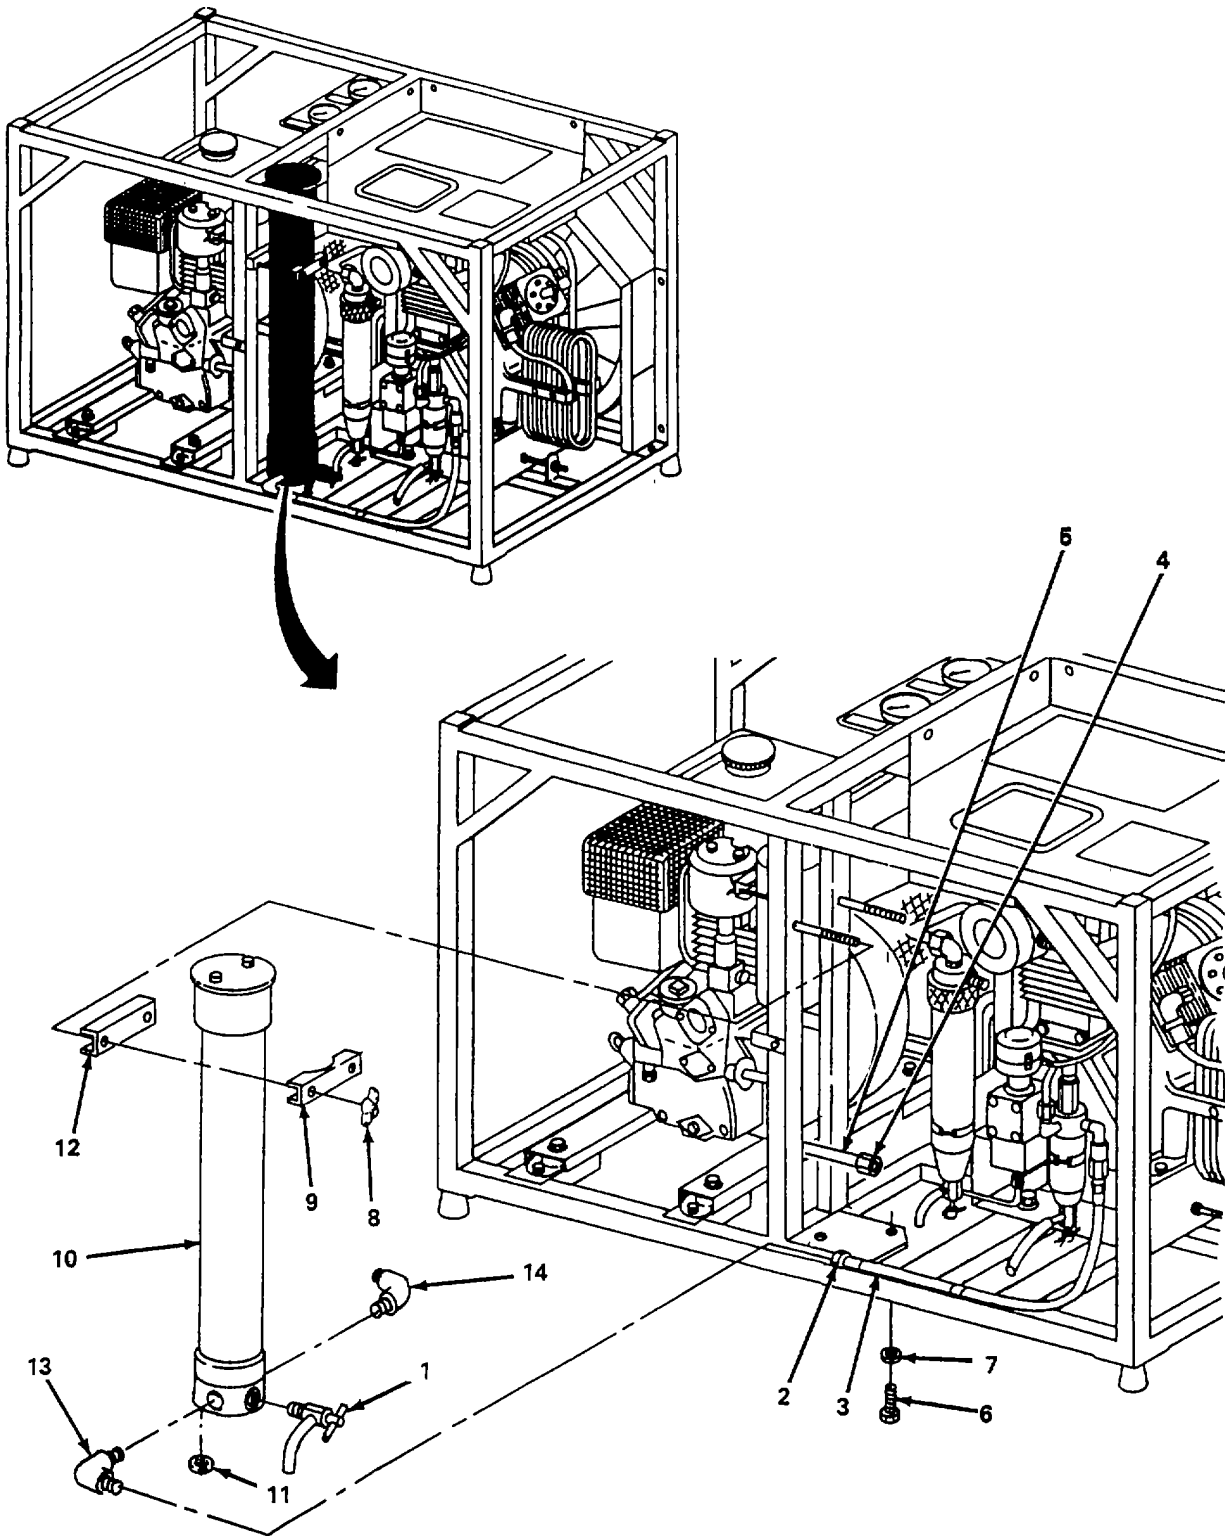

Figure 5-4. Purifier Assembly, Replace.
b. Replace. (figure 5-4)
- (1) Open drain valve (1) and relieve pressure.
- (2) Loosen connector nut (2) and disconnect line (3).
- (3) Loosen connector nut (4) and disconnect line (5).
- (4) Remove two bolts (6) and lockwashers (7).
- (5) Remove two wing nuts (8) and bracket (9).
- (6) Remove purifier assembly (10), two grommets (11), and bracket (12).
- (7) Remove drain valve (1), elbow (13), and elbow (14).